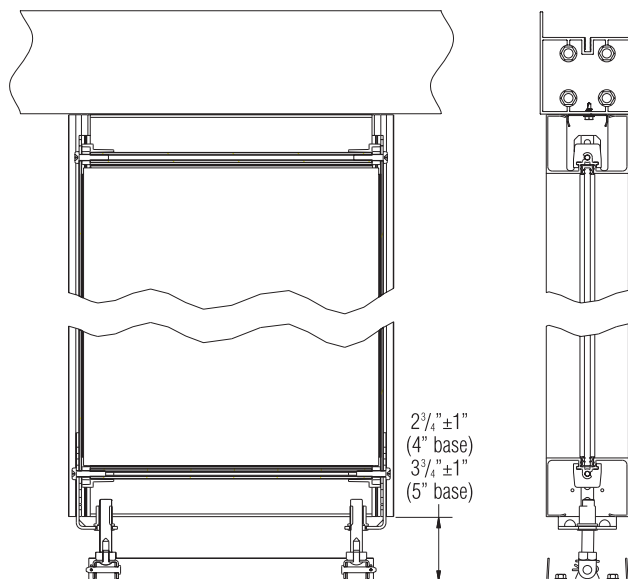

Figure 4 - Genius Panel Height Adjustment
6. With a second person holding the panel frame upright and secure, locate the bolts of the bottom adjustment glides. Use a  $\frac{3}{4}$ " wrench or pliers, and a little at a time on each glide, evenly adjust the panel height up to nest the top of the panel frame into the ceiling rail. Ensure that the panel frame is adjusted up level and plumb (Figure 4).
7. Once the panel frame is up, nested secure in the ceiling rail level and plumb, the next panel (if specified) can be installed following the above steps 5 & 6. Visually inspect that panel frames are plumb to each other and to the super structure posts. Assure that about  $\frac{1}{16}$ " gap is left between panels for connectors, and adjust if needed. Figure 4 shows the maximum height adjustment.